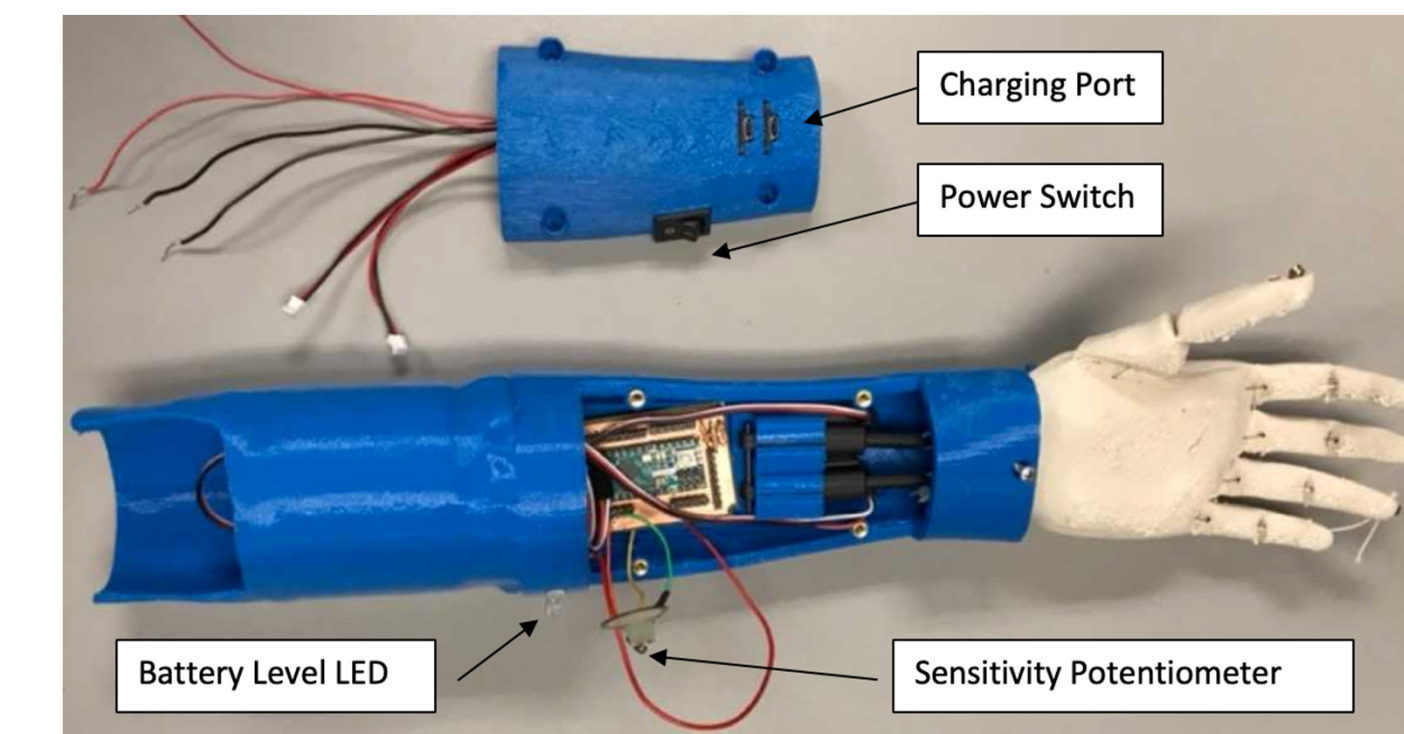

Figure 9: Completed Prototype
- Embedded into the forearm are a power switch, charging port, RGB LED to display battery level, and a potentiometer that controls sensitivity of muscle input (Figure 9).